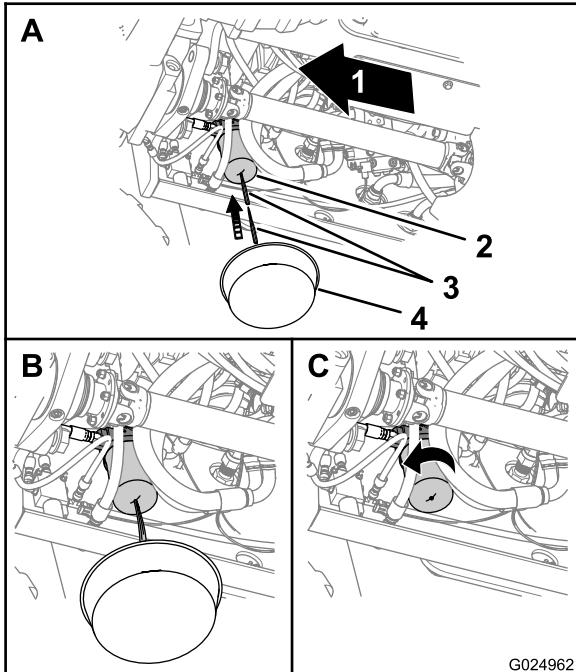

Figure 97
1. Place a drain pan under the transmission-oil filter (Figure 97).
2. Puncture the bottom of the transmission filter, and allow the residual hydraulic fluid to drain into the drain pan (Figure 97).
3. Remove the transmission filter with a filter wrench and discard the filter (Figure 97).
6. Install the new filter by hand and tighten the filter 1/2 to 3/4 turn after it makes contact with the filter head (Figure 97).